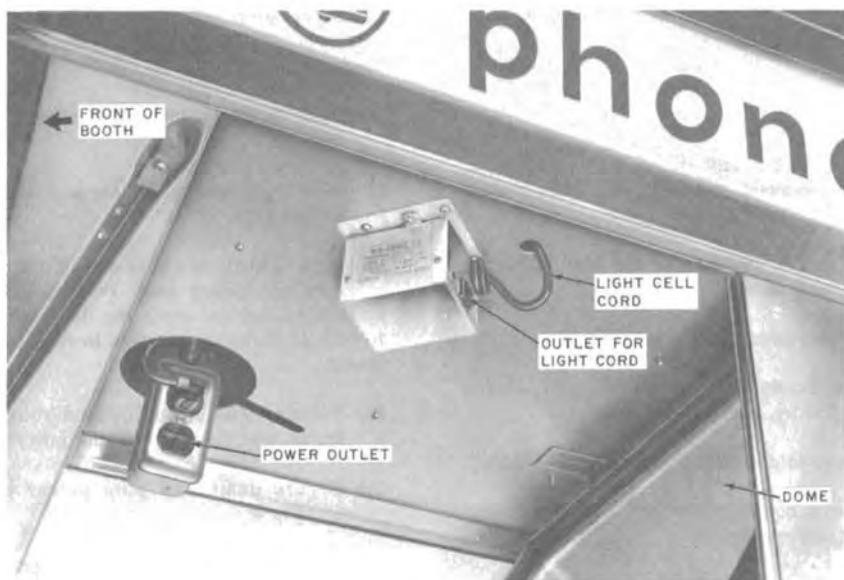

Fig. 11—Position of Light Control on Ceiling of KS-16797 Booth
- (h) Push light cell and cord through hole drilled in ceiling and secure grommet. Push the power cord through 2-inch hole and attach control unit to adapter plate (Fig. 11).